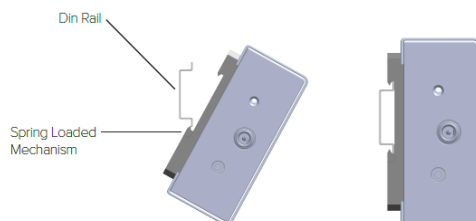

Fig. 5: Mounting the UV-Chamber to the Din-Rail
7. Snap the Pre-Filter to its Clips and mount the UV device to the Din-Rail as seen in Figure 5.